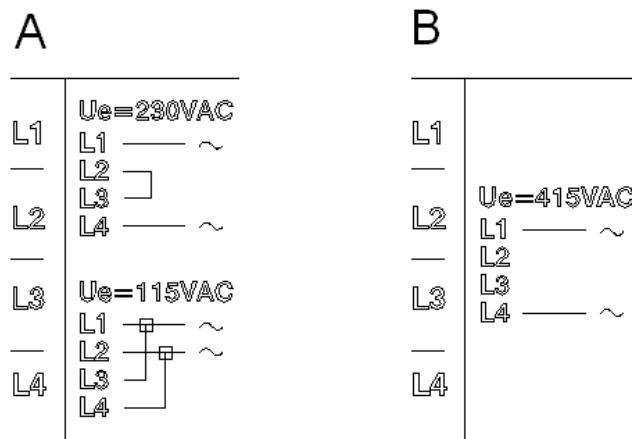

Figure 7. Power supply connection for RCQ020/A 115/230Vac and 415Vac versions
- the first one, indicated with letter 'A' in Figure 7, operates with a 115Vac or a 230Vac power supply (see Note 5)
- the second one, indicated with letter 'B' in Figure 7, operates with a 415Vac power supply (see Note 5)
Note 5: Connect the power supply in the right way depending on the value, as described in the label on the backside (see Figure 7).